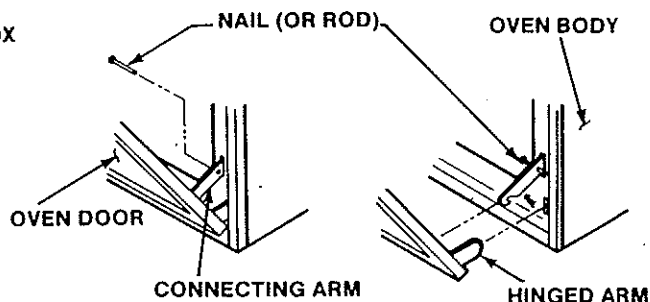

Figure 7
- a. open oven door and insert a nail (or rod) into the hole in each arm that connects the door to the range, (Figure 7).